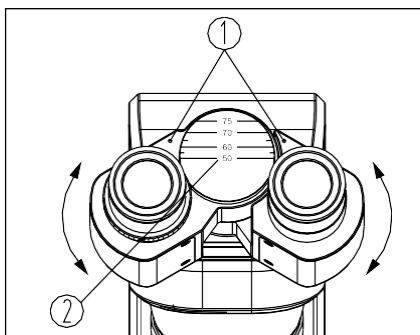

Fig.13
When using two eyes to observe, hold the bases of the prism and rotate them around the axis to adjust the interpupillary distance, until there is only one field of view. The dot “.” ① on the eyepiece base points to the scale ② of the interpupillary distance indicator. The scale value is the interpupillary distance (See Fig. 13). Adjustable range: 50~75mm.